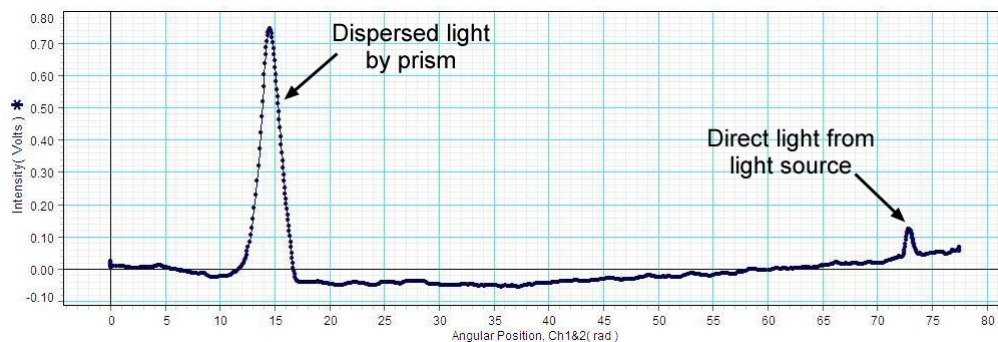

Figure 5 Determination of initial angle
- The program will open two graphic displays. Graph A is the light intensity (V) versus wavelength (nm) and Graph B is the light intensity (V) versus the angular position of the rotary motion sensor (in units of radians).
17. There will be a peak in Graph B (the light intensity vs. angular position of the rotary sensor), when the light sensor is directly facing the light source. In this case, some light leaks through the prism without being dispersed (as shown in Fig. 5). Therefore, this peak can be used to calibrate the zero degree angle. Use the Smart Cursor to determine the angle from the starting position to the central peak where the light sensor is directly facing the light source. Click the “Calculator” in the *DataStudio* program and enter this angle as "init".